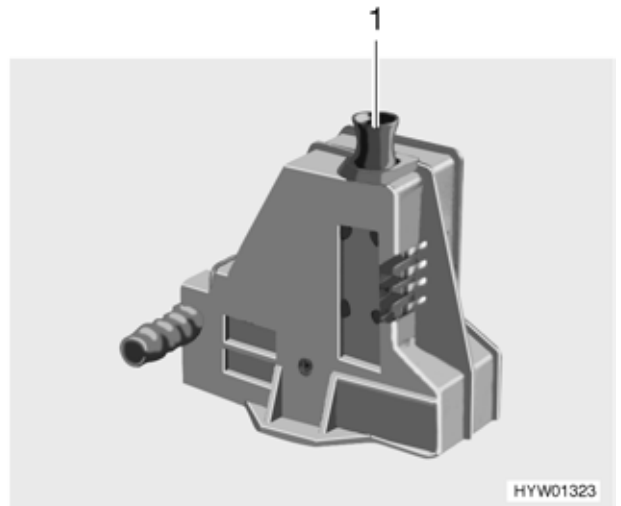

Fig. 123 Safety/drainage valve of the boiler
The boiler is equipped with a safety/drainage valve (Fig. 123). The safety/drainage valve prevents water in the boiler from freezing, when there is frost and the heater is not switched on. For position see the chapter 10, "Position of the Drainage Valves".
- Close the safety/drainage valve. Pull the pull switch (Fig. 123,1) up.
- Open the safety/drainage valve (Fig. 123). Push the pull switch (Fig. 123,1) down. The boiler is drained to the outside by the safety/drainage valve.